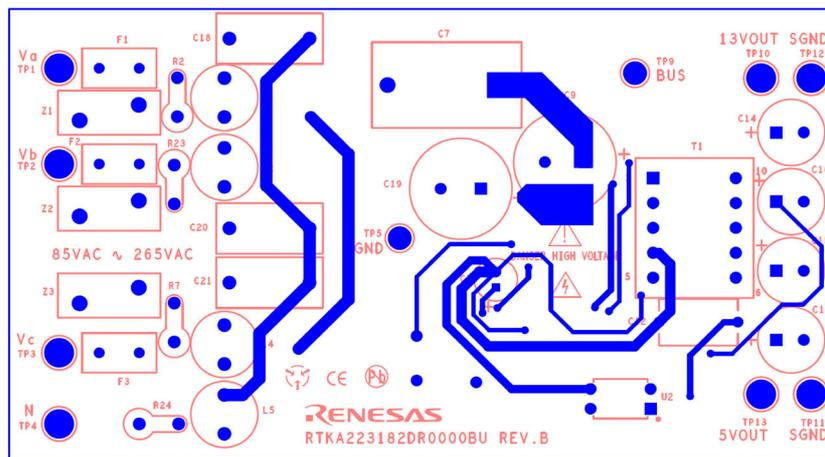
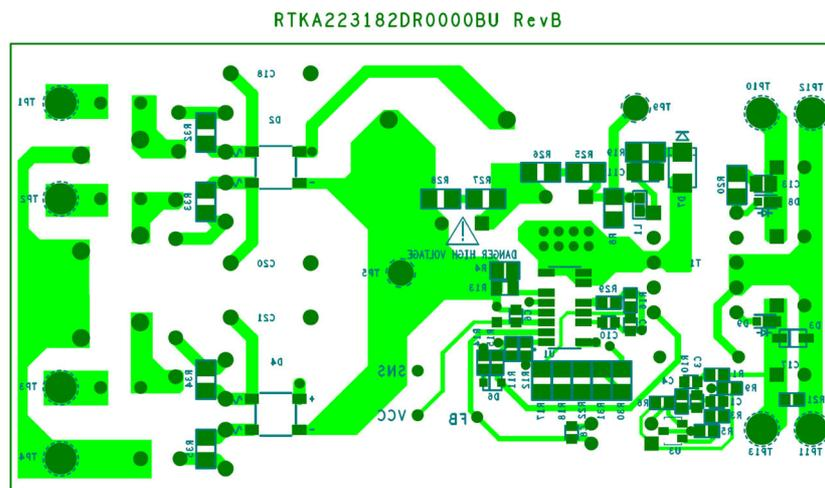

Figure 32. Top Layer
Figure 33. Bottom Layer
- Use the star connection of ground traces as shown in the top layout picture (Figure 32). The connection point needs to be close to the IC ground pin.
Figure 32 and Figure 33 show the PCB layout example.